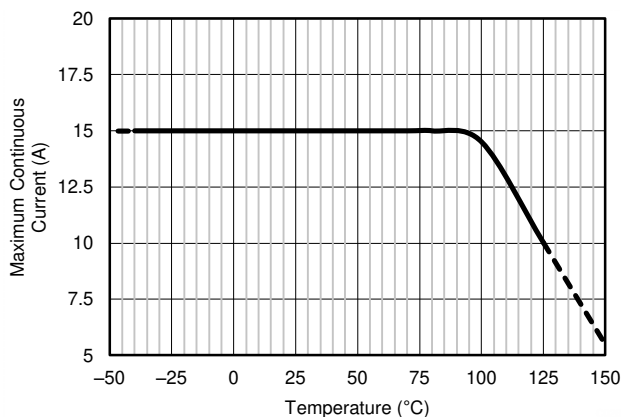

图 7-1. Maximum Current vs Temperature
- (3) The supply voltage maximum is 36 V, but the reference voltage cannot be higher than 18 V.
- (4) See 图 7-1 and the *Layout* section for additional information on the current derating and layout recommendations to improve the current handling capability of the device at higher temperatures.
- (5) See the 节 7.3.1 section for additional information regarding the integrated current-sensing resistor.
- (6) System gain error includes amplifier gain error and the integrated sense resistor tolerance. System gain error does not include the stress related characteristics of the integrated sense resistor. These characteristics are described in the *Shunt Resistor* section of the *Electrical Characteristics* table.
- (7) The internal shunt resistor is intended to be used with the internal amplifier and is not intended to be used as a stand-alone resistor. See the *Integrated Shunt Resistor* section for more information.
External factors (such as ambient temperature, external air flow, and PCB layout) can contribute to how effectively the heat developed as a result of the current flowing through the total package resistance can be removed from within the device. Under the conditions of no air flow, a maximum ambient temperature of 85°C, and 1-oz. copper input power planes, the INA250 can accommodate continuous current levels up to 15 A. As shown in 图 7-1, the current handling capability is derated at temperatures above the 85°C level with safe operation up to 10 A at a 125°C ambient temperature. With air flow and larger 2-oz. copper input power planes, the INA250 can safely accommodate continuous current levels up to 15 A over the entire -40°C to 125°C temperature range.